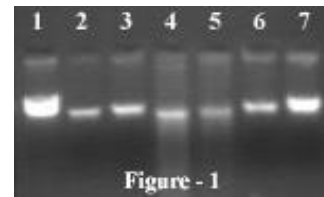

Fig.1 (Extracted DNA by DNP Kit from blood on 1% agarose)
8. Precipitate unsolved materials by centrifuge, 30sec at 12,000g, supernatant contains purified DNA. Measure DNA concentration spectrophotometrically or visually after electrophoresis in fresh 1% agarose gel. (fig.1)